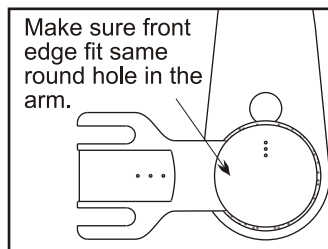

Fig.2
- b. Front edge should fit same round hole of the arm. (Fig.2)
3. Do not remove any parts except handle, rubber cap and bolt as illustrated.(Fig.2)